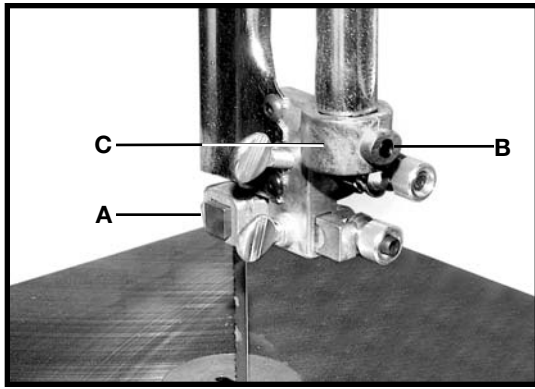
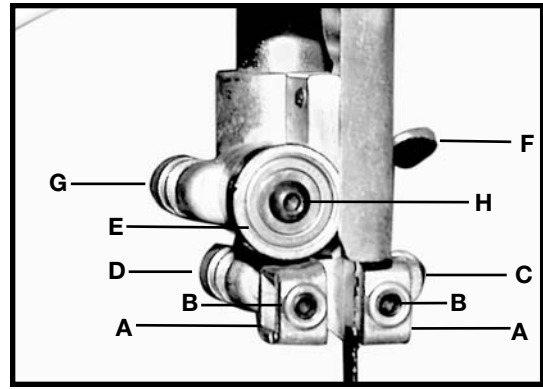
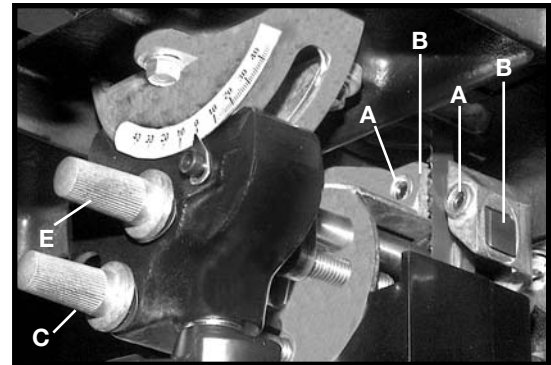

Fig. 27
Fig. 28
Fig. 29
3. Check the upper blade guide assembly. The blade guides (A) Fig. 27 should be parallel to the blade. To adjust, loosen the screw (B) and rotate the complete guide assembly (C). When the blade guides are parallel with the blade, tighten the screw (B).
4. Adjust the guides (A) Fig. 28 so that the front edge of the guides are just behind the "gullets" of the saw teeth. The complete guide block bracket can be moved in or out by loosening the thumb screw (C) and turning the knurled knob (D) Fig. 28. When the guides (A) are set properly, tighten thumb screw (C).
5. Two set screws (B) Fig. 28 hold the upper blade guides (A) in place. Loosen the set screws (B) to move the guides (A). Place them as close as possible to the side of the blade. (Be careful not to pinch the blade). Tighten the screws (B).
6. The upper blade support bearing (E) Fig. 28 prevents damage to the set in the saw teeth by keeping the blade from being pushed too far toward the back. The support bearing (E) should be set 1/64" behind the blade by loosening the thumb screw (F) and turning the knurled knob (G) to move the support bearing (E) in or out.
7. Adjust the blade support bearing (E) so that the back edge of the blade overlaps the outside diameter of the ball bearing by about 1/16". The bearing (E) is set on an eccentric. To change the position, remove the screw (H) and bearing (E) Fig. 28. Loosen the thumb screw (F), back out the knurled knob from the set screw. Remove the hex shaft from the hole, and rotate it to move the eccentric for the bearing.
8. When the blade guide wears to a point that it cannot be adjusted close to the blade, loosen screw (B) Fig. 28 and reverse the blade guides (A) Fig. 28.
2. Adjust the front edge of the guide blocks (B) Fig. 27 so that they are just behind the "gullets" of the saw teeth. Turn the knurled knob (C) Fig. 29 to make this adjustment. Check the support bearing (E) Fig. 28. It should not be touching the back of the blade.
3. Loosen the two screws (A) Fig. 29. Move the guides (B) as close as possible to the side of the blade, being careful not to pinch the blade. Tighten screws (A).
3. Turn the other knurled knob (E) to adjust the lower blade support bearing (D) Fig. 29 so that it is about 1/64" behind the back of the blade.